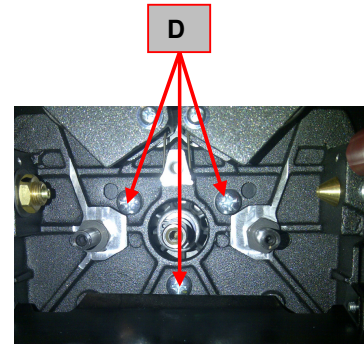

Figure 9
8. Using the Phillips PH02 screwdriver remove the 3 screws (D), that are fixing the motor to the wire drive. See **Figure 9**.